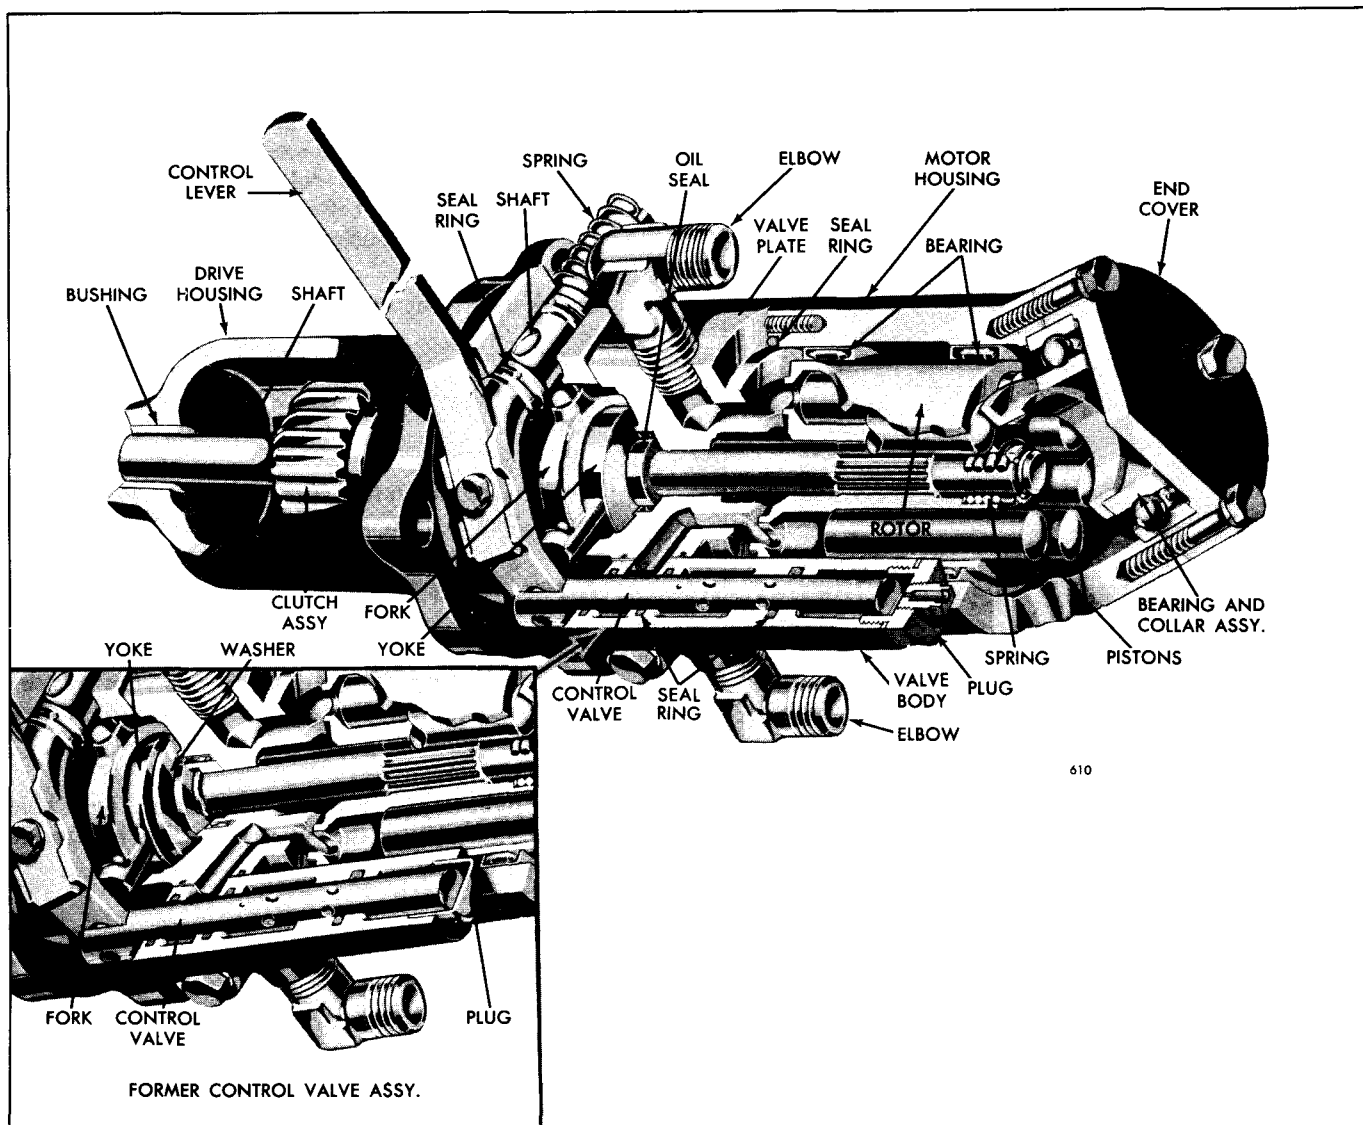

Fig. 4 - Cutaway View of Hydrostarter
With the engine controls set for start (throttle at least half-open), push the control lever (Fig. 4) to simultaneously engage the starter pinion with the flywheel ring gear and to open the control valve. Close the valve quickly when the engine fires to conserve the oil pressure in the accumulator and to prevent excessive overrunning of the starter drive clutch assembly.
The Hydrostarter (starting) motor is mounted on the flywheel housing in the same manner as a conventional starting motor. This starting motor has an inherently high rate of acceleration; therefore, the engine is cranked faster than is possible with other starting systems. Right and left-hand starters are achieved by assembling the motor housing (Fig. 4) to the valve plate in one of two positions 180° apart and by changing the drive clutch assembly. The drive housing can be adjusted in 12 different positions to accommodate various flywheel housing configurations.
With the exterior of the Hydrostarter motor cleaned, scribe marks on the drive housing, clutch housing, valve plate and motor housing prior to disassembly to ensure their correct reassembly. Refer to (Figs. 4 and 6) and proceed as follows:
8. On a Series "20" Hydrostarter motor equipped with the former control valve assembly, shown in the inset in (Fig. 4), remove the drive shaft oil seal washer from the starter shaft.
The rotor bearings (Fig. 4) should not require replacement; however, if they are worn excessively, a new motor housing and bearing assembly must be installed.
The washer between the shaft seal and the clutch yoke (see inset in Fig. 4) is used ONLY in the early Series "20" Hydrostarter motors with the former type control valve. If the Hydrostarter motor is overhauled and a new control valve assembly is installed, remove the washer. However, if the control valve assembly is replaced and the motor is not disassembled, the washer may be left in the motor.
Refer to (Figs. 4 and 6) and assemble the Hydrostarter motor as follows:
The starter shaft oil seal washer, mentioned in Step 10, is only used on Series "20" Hydrostarter motor assemblies using the former control valve assembly shown in the inset in (Fig. 4).
On a former (Series "20" motor) control valve body, shown in the inset in (Fig. 4), press the cup plug against the shoulder in the control valve body.